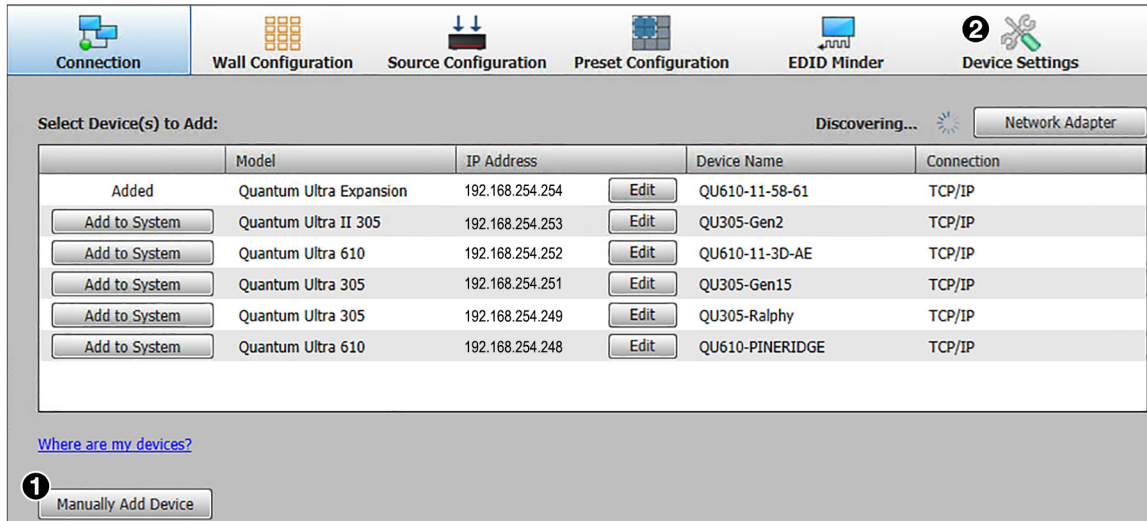

Figure 9. Manually Add Device Button on the Connection Screen
- On the New Project connection screen, click the **Manually Add Device** button (see figure 9, ①).
- On the VCS Connection screen, click the **Manually Add Device** button (see figure 9, ①).
1. Open the project file of the expansion system and select the **Device Settings** tab (see figure 9, ②, on page 5).
3. Select the **Primary** or **Secondary** radio button (see ① in the image at right) for the device for which you are changing the network settings.
4. (Optional) Select a **Connection Type** radio button (②) for the primary device (**TCP/IP** or **USB**).